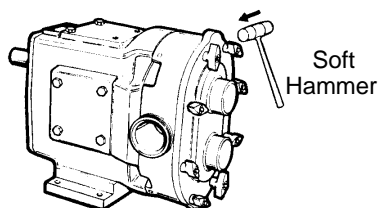

Figure 31 - Remove Cover Nuts
1. Remove the cover wing nuts from the cover using a soft hammer to loosen them (Figure 31).